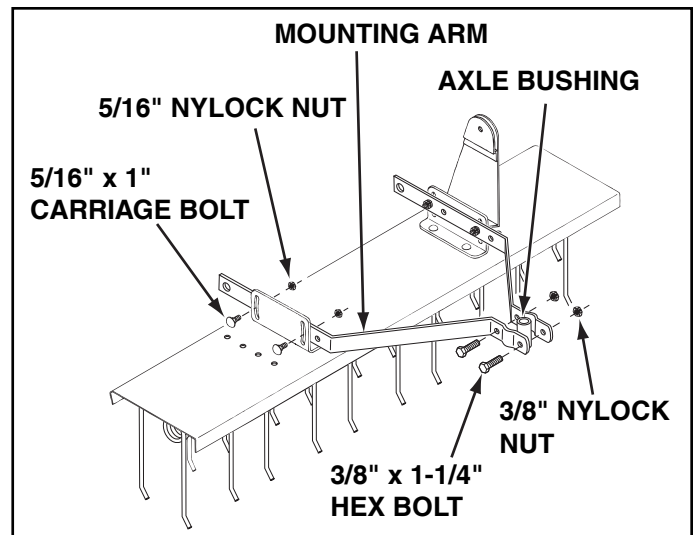

FIGURE 3
3. Assemble mounting arms to inside of angle mounting brackets using four 5/16" x 1" carriage bolts and 5/16" nylock hex nuts. Fasten through rear set of holes in mounting arms. **Do not tighten** until dethatcher is mounted to tractor. See figure 3.
4. Loosely assemble front ends of mounting arms together using two 3/8" x 1-1/4" hex bolts and 3/8" nylock hex nuts. Place axle bushing between front ends of mounting arms, centering bushing up and down. **Tighten bolts securely** in front ends of mounting arms. See figure 3.
- Loosen carriage bolts through mounting arms and angle brackets. (Refer to figure 3 on page 5.)